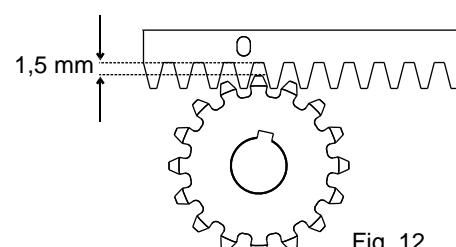

Fig. 12
6.6. To avoid that the door weights down on the pinion (Fig.12) lift up the whole rack about 1,5 mm.